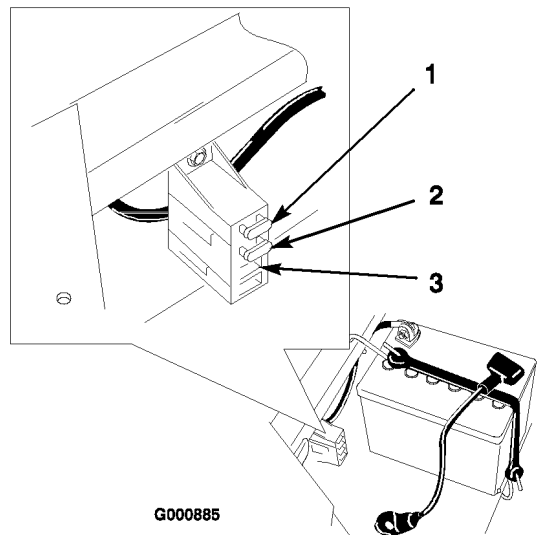

Figure 37
1. Raise the seat to gain access to the fuse holder (Figure 37).
2. To replace a fuse, pull out on the fuse to remove it (Figure 37).